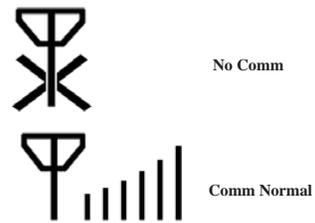

Fig.6 Communication Signal
4. Communication status indication: Under wireless communication mode, LCD shows an antenna icon beside each sensor icon. The progress bar indicates the strength of sensor communication signal. When the sensor is shut off or communication with host machine is disconnected, a “Cross” will show under the antenna icon (Fig. 6). On the upper right side of the LCD, it shows the communication status and the present signal channel of the host. Under wire communication mode, the antenna icon disappears.